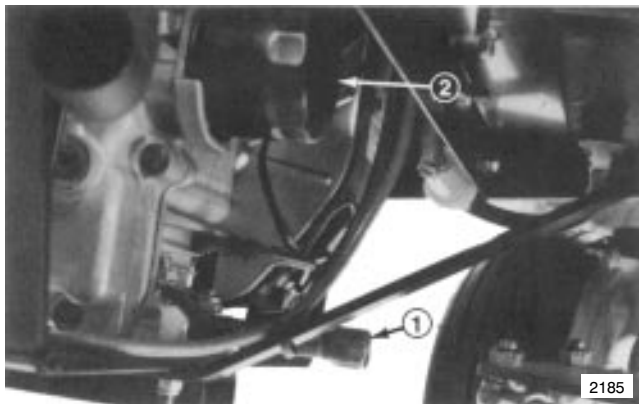

Figure 15
3. Place a pan below the oil drain. Remove the oil drain plug (Fig. 15).
2. Remove the old filter and wipe the filter adapter (Fig. 15 and 16) gasket surface.